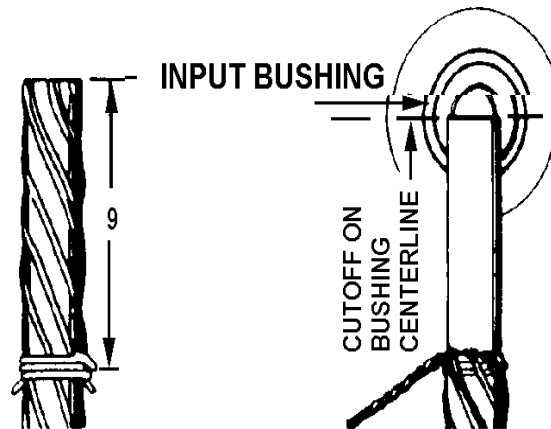

Figure 3. Cutoff of Bushing Centerline
- Cut cable squarely at bushing centerline (Figure 3).